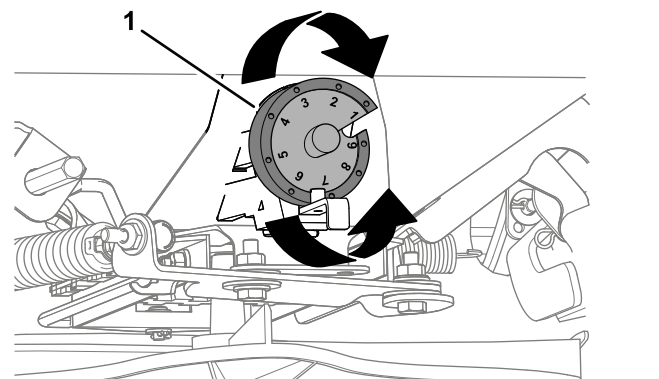

Figure 30
- Rotate the drop rate cam (Figure 30) to the cam setting you determined in step 4.